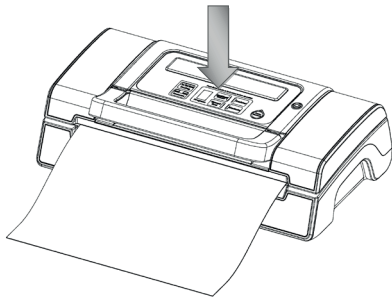

Fig. 7
7. Press “Manual Seal” button to start sealing the bags. (Fig.7)